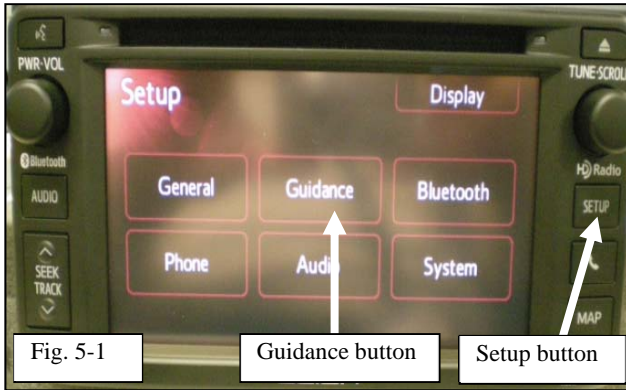

Fig. 5-1
- (b) If the guidance menu is available, the microphone is connected. (Fig. 5-1)